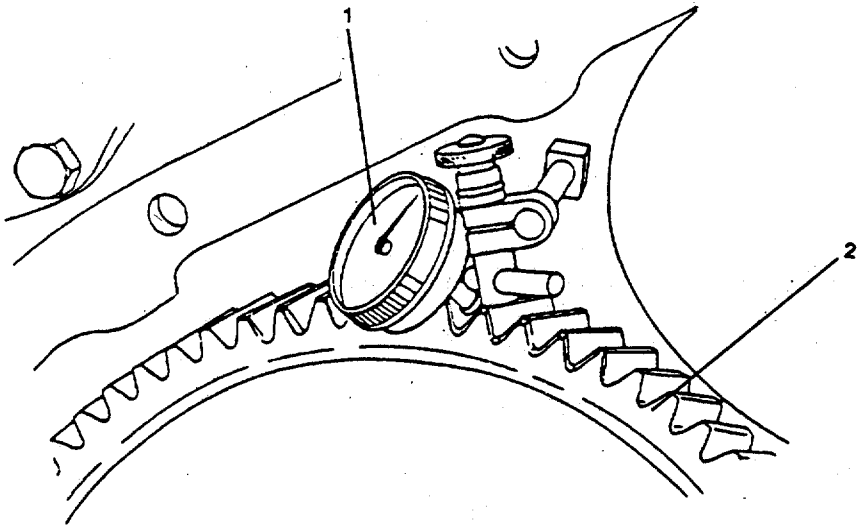

FIGURE 3-72. Checking Gear Backlash.
- (1) Put the tip of the dial indicator (1, FIGURE 3-72) against a tooth on the camshaft gear (2).
- (2) Turn the camshaft gear by hand as far as it will freely move, and set the dial indicator at "O" (zero).
- (3) Turn the camshaft gear (2) by hand in the opposite direction as far as it will freely move, and read the dial indicator (1). Backlash between the camshaft and the crankshaft gears should be minimum 0.002 inch (0.05 mm); the maximum should be 0.02 inch (0.50 mm).